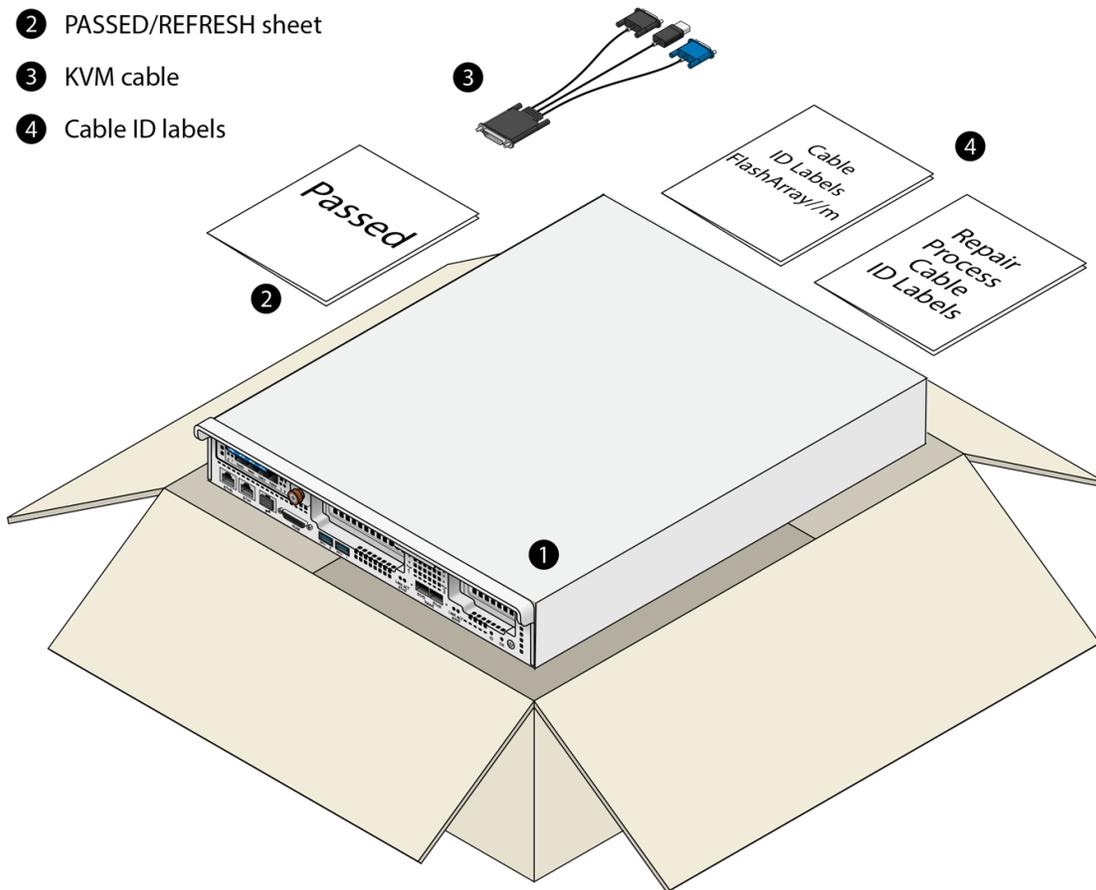

Figure 7-3. FlashArray//M Replacement Controller Package
1. Verify that the controller package contains the items displayed in Figure 7-3.
- ① FlashArray//m controller
- ② PASSED/REFRESH sheet
- ③ KVM cable
- ④ Cable ID labels